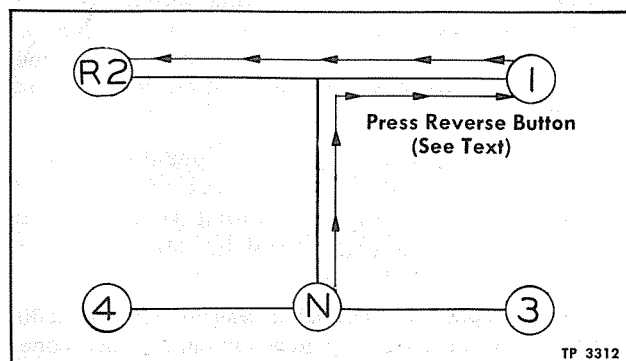

Figure 7—Transmission Shift Diagram
Transmission has four forward speeds and one reverse. Shift lever positions are illustrated in figure 7. Reverse shift pattern is indicated by arrows in figure 7.
1. With vehicle at a complete stop and clutch pedal depressed, move shift lever from neutral (N) to 1st (fig. 7).
2. Press "REVERSE SHIFT" button at left of gauge panel (fig. 2). While holding button in, shift lever into "R2" position (fig. 7).